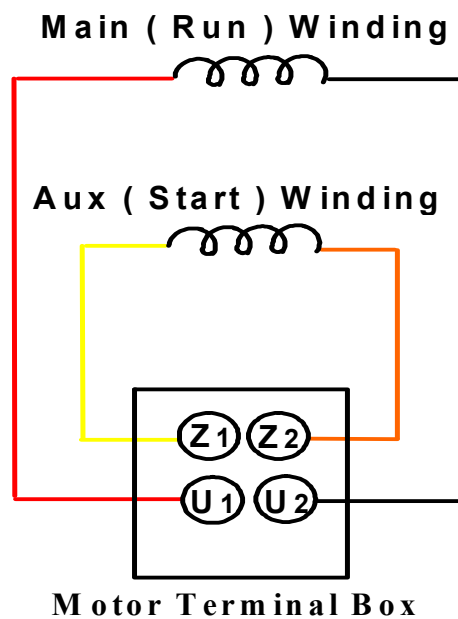

Figure 29
- The auxiliary winding ends are identified in the terminal box as Z1 and Z2 and while there is no standard colour, they will at least have different colours to that of the main winding. See Fig. 29.